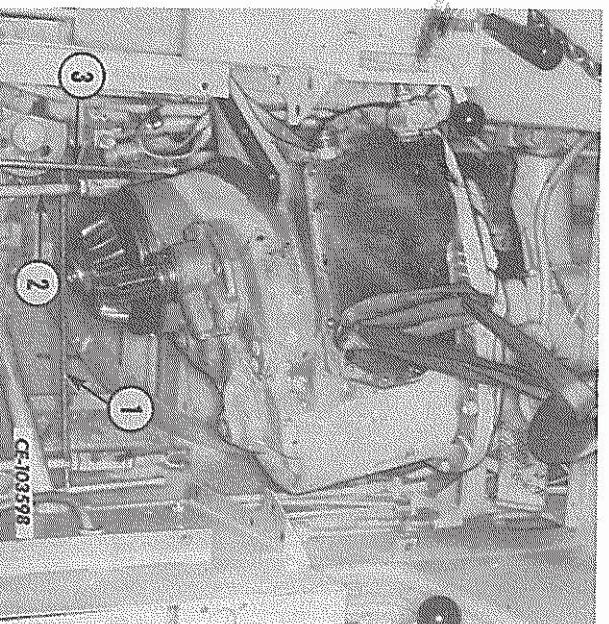

FIG. 12 – Removing the Transmission Assembly
20. Insert eyebolts into the top of the transmission case and attach a hoist as shown in Fig. 12. Remove the capscrews securing the transmission to the rear main frame and carefully lift the transmission out of the machine.
NOTE: As the transmission is lifted out it will have to be maneuvered to clear the pivot brake cable (1, Fig. 12) steering lever pull rod (2) and steering booster rod (3).